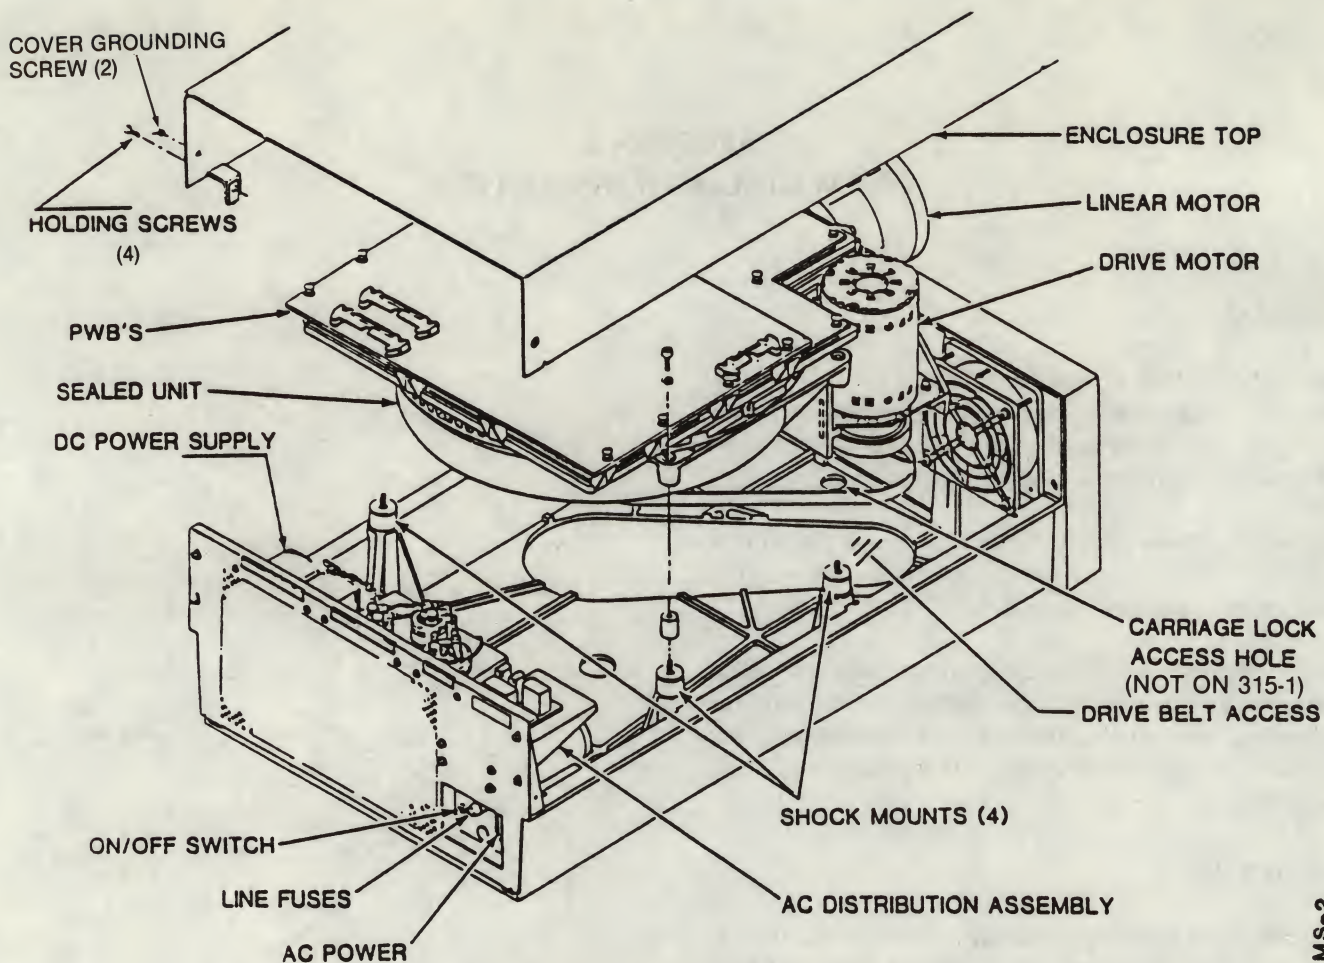

Figure 2-2. Disk Drive with Enclosure
5. Remove the enclosure top by removing the six philips-head screws (two at the front corners and two on each side [front and back]) see Figure 2-2. Lift top up and off.